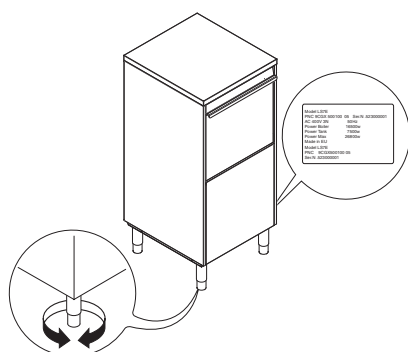

Fig. 5
The rating plate contains identification and technical data and is located on the right-hand side panel of the appliance (Fig. 5).
- Position the dishwasher and level the appliance by turning the relative height-adjustable feet (Fig. 5).